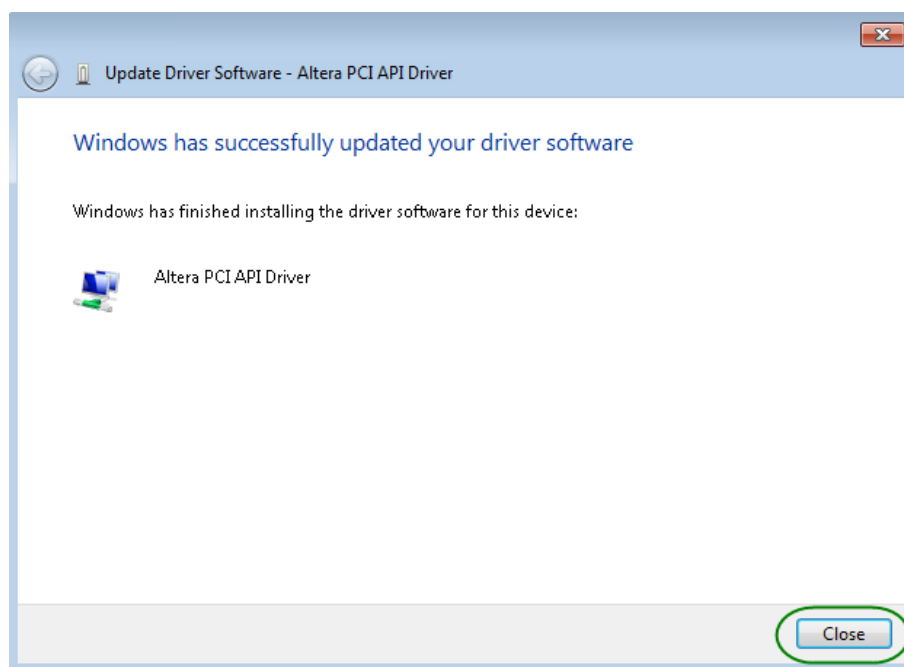

Figure 1-7 Click Close when the installation of Altera PCI API Driver is complete
9. When the driver is installed successfully, the successfully dialog will appear, as shown in **Figure 1-7**. Click the **Close** button.